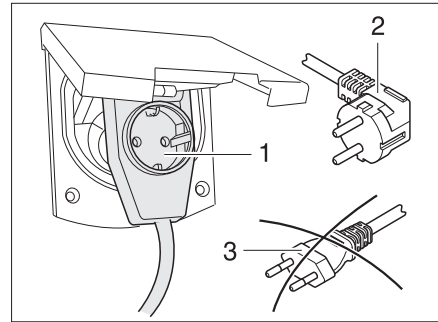

Fig. 99 Connecting an angled connector with socket
- ▶ If a CEE 17 angled connector with socket mounted on rear (Bild 99,1) is used, use only a rubberised and sealed IP 44 plug with earth contact (Bild 99,2). Do not use a plug without earth contact (Bild 99,3). Danger of electrocution!